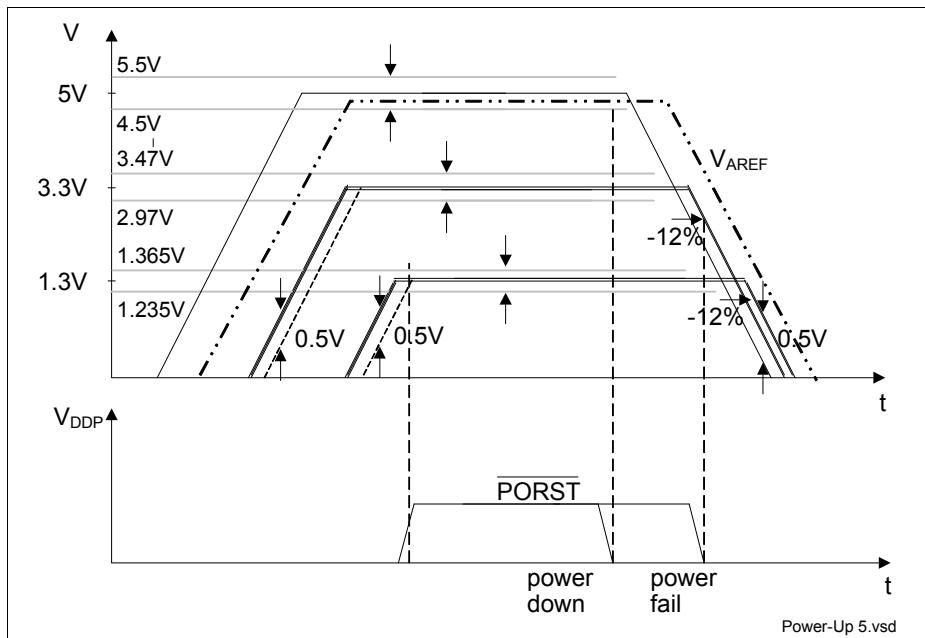

Figure 14 5 V / 3.3 V / 1.3 V Power-Up/Down Sequence for 5% Operating Range
- At any moment in time to avoid increased latch-up risk, each power supply must be higher than any lower_power_supply - 0.5 V, or: $V_{DD5} > V_{DD3.3} - 0.5 \text{ V}$; $V_{DD5} > V_{DD1.3} - 0.5 \text{ V}$; $V_{DD3.3} > V_{DD1.3} - 0.5 \text{ V}$, see Figure 14.